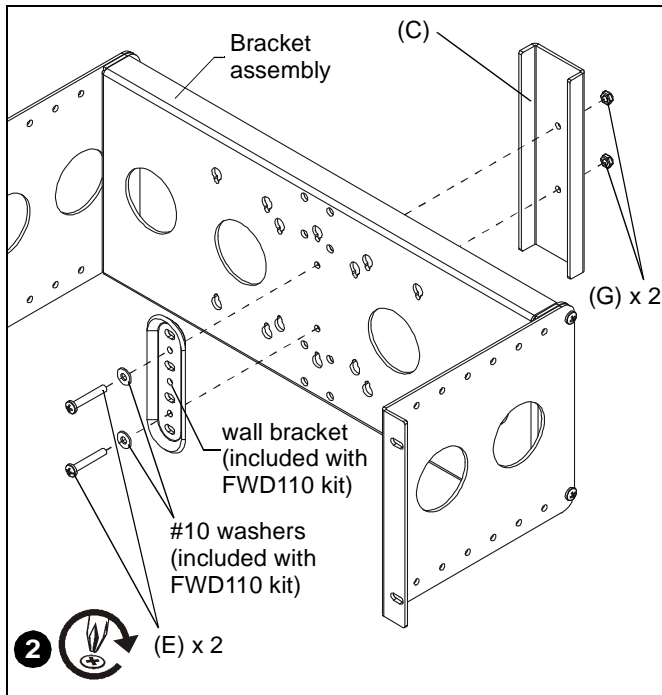

Figure 5
2. Install FWD wall bracket (included with FWD110 kit) to bracket assembly and FWD support (C) using two 10-24 x 1-1/4" Phillips head screws (E), two #10 washers (included with FWD110 kit) and two 10-24 lock nuts (G). (See Figure 5)